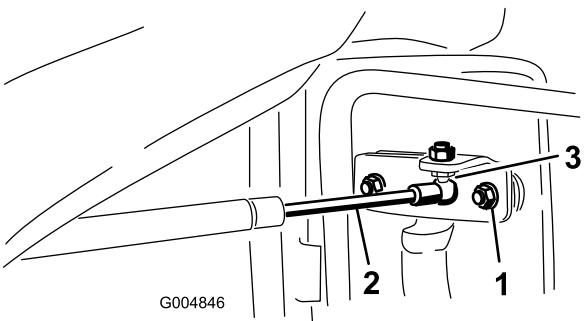

Figure 64
1. Remove the clip securing the door closer socket to the door bracket ball (Figure 64).